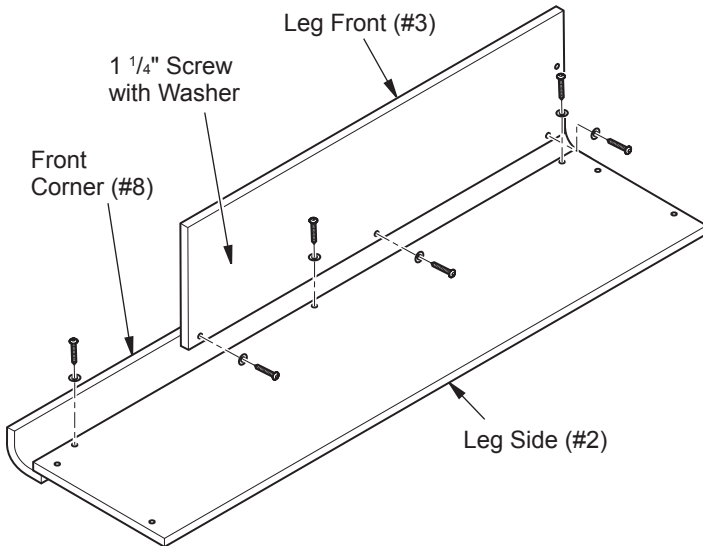

Figure 1 - Leg Assemblies (right side shown)
1. Lay right side panel (#2) face down on a soft surface to avoid marking finish. Attach right front corner (#8) to side panel with three 1 1/4" screws with washers as shown in Figure 1. Attach leg front (#3) to front corner (#8) with three 1 1/4" screws with washers as shown in Figure 1.